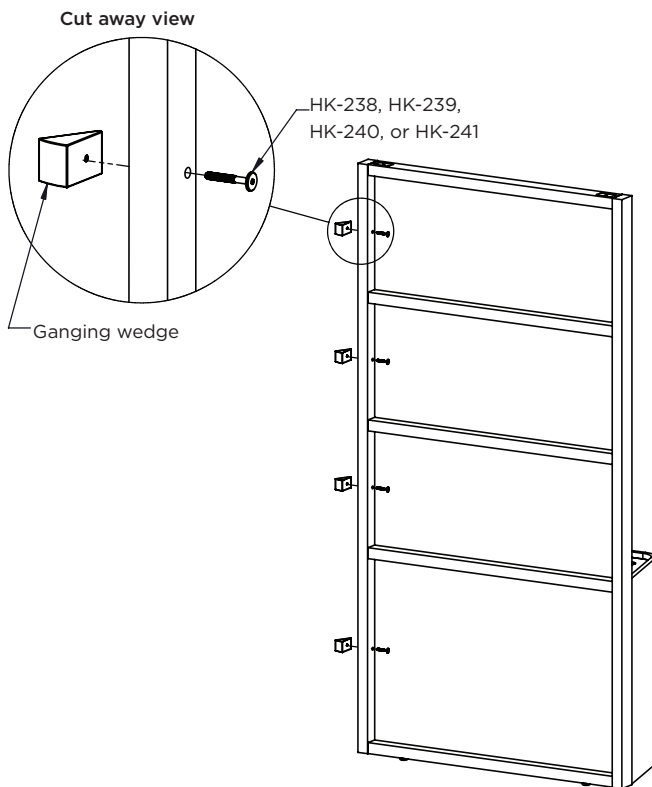

Figure 5B
- For 90"h to 90"h planters. Locate ganging hardware connector bolts (HK-238, HK-239, HK-240, or HK-241, color dependent). The infill type will determine which hardware kit is used. Reference table below to identify the appropriate length. Using the  $\frac{5}{32}$  hex key, secure the ganging wedges to the planter frame using the connector bolts. For 90"h to 90"h planters, there are four connection joints per side. (**Figure 5B**)